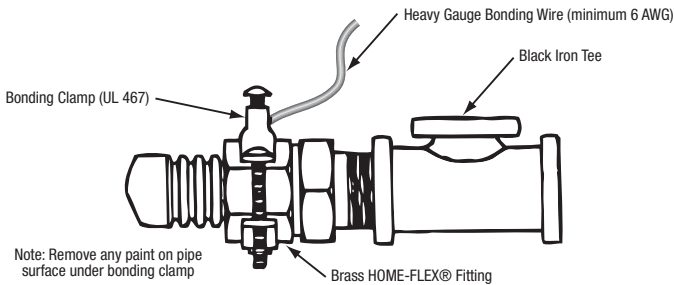
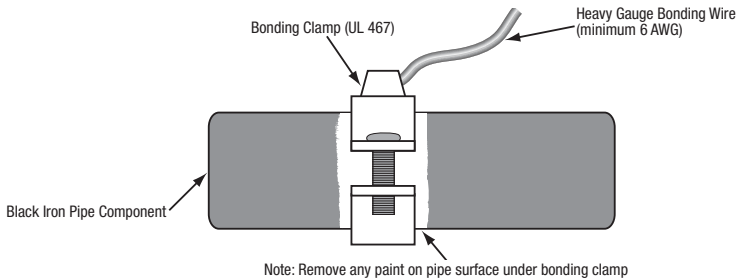

Figure 4.27 Bonding Connection to Brass Fitting
Figure 4.28 Bonding Connection to Rigid Black Iron Pipe
- Attachment between the CSST gas piping system and the bonding clamp must be made by connecting to a HOME-FLEX® brass fitting (Figure 4.27), or any rigid pipe between the first CSST fitting in the system and the meter (Figure 4.28). Under no circumstance is HOME-FLEX® CSST tubing to be used as the attachment point for the bonding conductor.